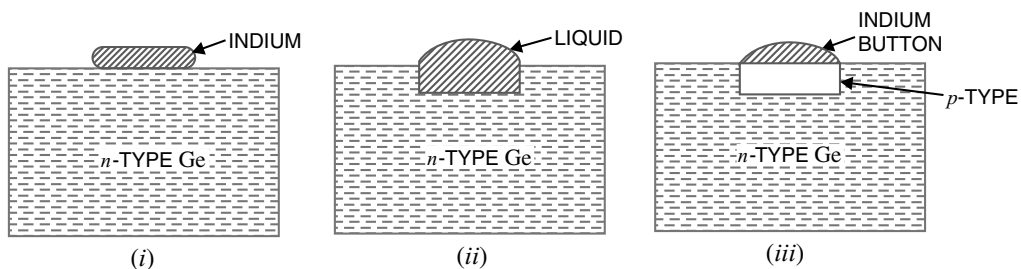

Fig. 3.19
**Formation of *pn* junction.** In actual practice, the characteristic properties of *pn* junction will not be apparent if a *p*-type block is just brought in contact with *n*-type block. In fact, *pn* junction is fabricated by special techniques. One common method of making *pn* junction is called *alloying*. In this method, a small block of indium (trivalent impurity) is placed on an *n*-type germanium slab as shown in Fig. 3.19 (i). The system is then heated to a temperature of about 500°C. The indium and some of the germanium melt to form a small puddle of molten germanium-indium mixture as shown in Fig. 3.19 (ii). The temperature is then lowered and puddle begins to solidify. Under proper conditions, the atoms of indium impurity will be suitably adjusted in the germanium slab to form a single crystal. The addition of indium overcomes the excess of electrons in the *n*-type germanium to such an extent that it creates a *p*-type region.
As the process goes on, the remaining molten mixture becomes increasingly rich in indium. When all germanium has been redeposited, the remaining material appears as indium button which is frozen on to the outer surface of the crystallised portion as shown in Fig. 3.19 (iii). This button serves as a suitable base for soldering on leads.